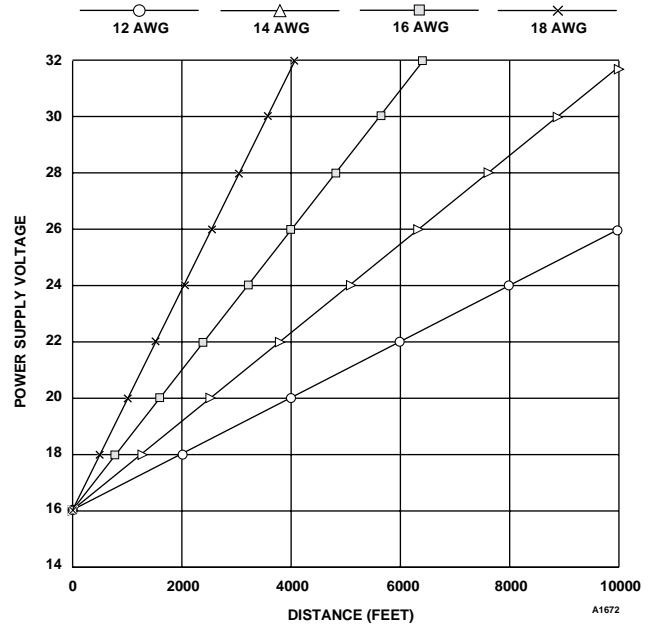

Figure 3—Transmitter Wiring Requirements for Combustible Gas Model with Relays
- Figure 3 — Transmitter Wiring Requirements for Combustible Models with Relays